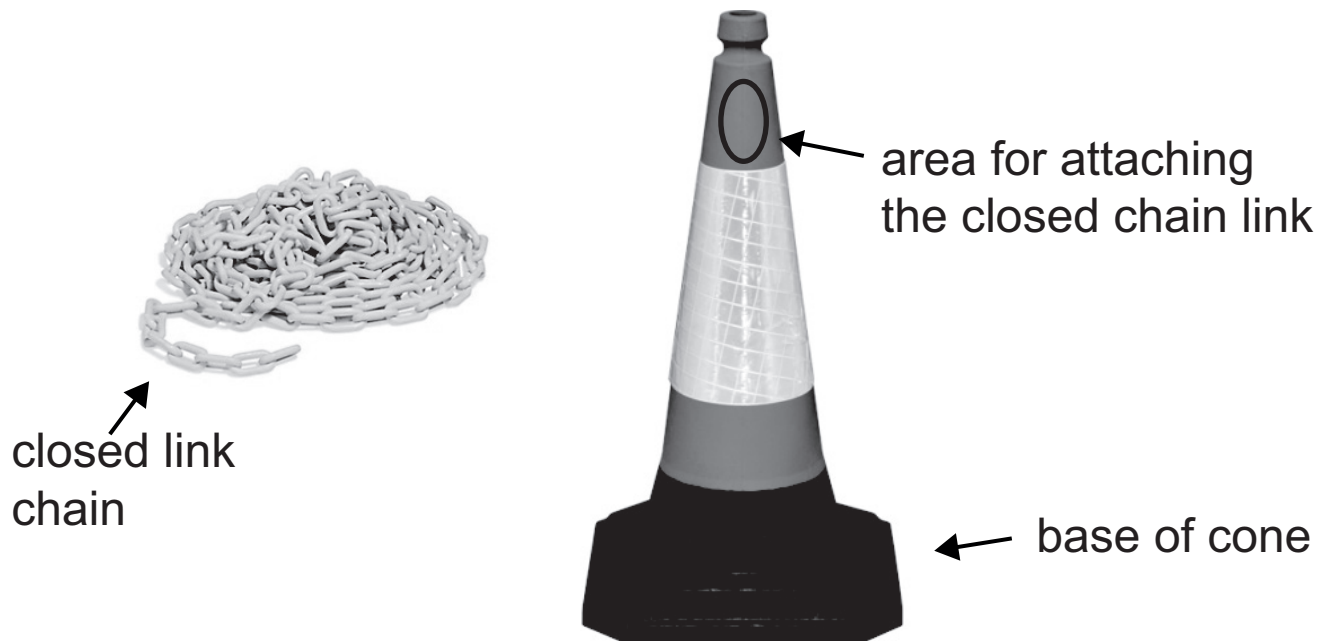

Fig. 16
- (ii) With reference to **Fig. 16** and on the blank A3 pro forma (answer number **6(h)(i) and (ii)**) use detailed annotated sketches to produce one possible solution for the following: